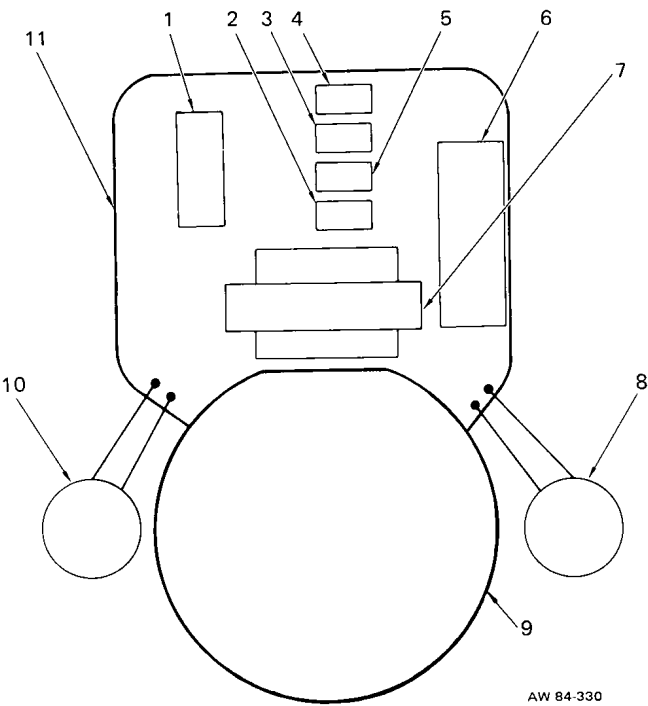

Figure 4: Models 184130 and 183091 Networks, Exploded View
2.02 The networks are printed circuit assemblies. All components are assembled on a printed circuit board (PCB). (See Figure 4.) The networks are designed for the handset of the rotary dial Trendline telephone. The networks mount in the handset over the transmitter and recall button.